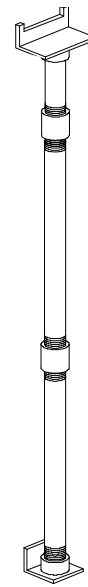

Figure 78
34. Replace the top of the brace to create a brace that is 87.6 cm (34.5 in.). Refer to Figure 78. Place the brace between the top chamber bracket and the 7 mm step of the front tunnel extrusion.